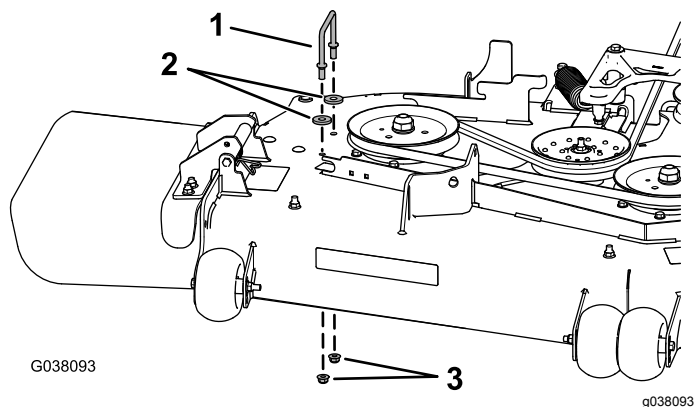

Figure 5
- Remove the right belt-cover bracket, **2 washers (60-inch mower deck only)**, and 2 flange nuts from the mower deck (Figure 5).